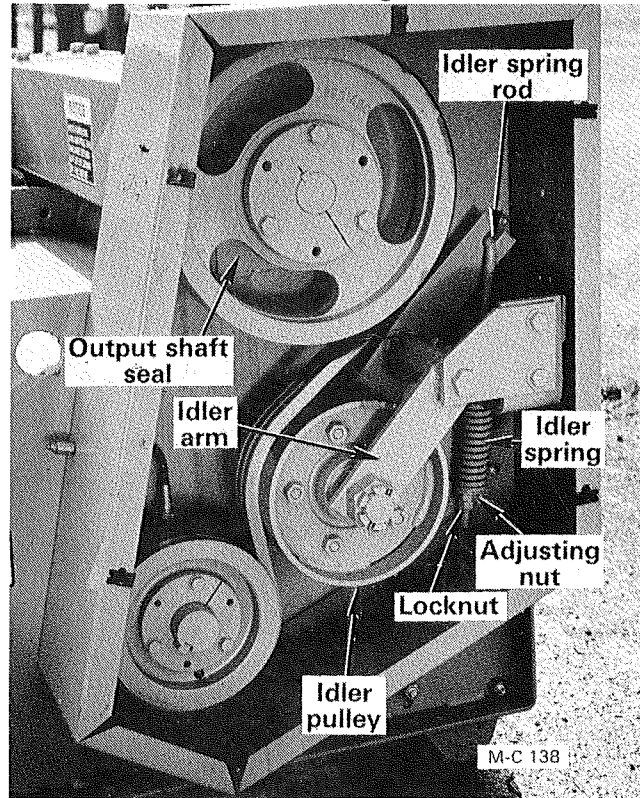

Figure 20
3. If not, loosen the locknut and tighten the idler spring adjusting nut, see Figure 20, until the compressed spring length is 5 to 5½ inches long.
3. Loosen the idler spring rod locknut and back off the idler spring adjustment nut to relieve all spring tension. Remove the idler spring rod and spring, see Figure 20.
- B. Remove the two capscrews securing the output shaft seal, see Figure 20 and 21.